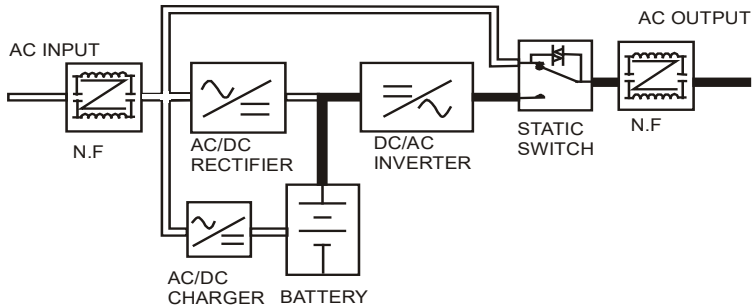

Figure 23: Show How UPS Works when AC Utility Fails.
7.3 AC Utility Failure (Fig.23)